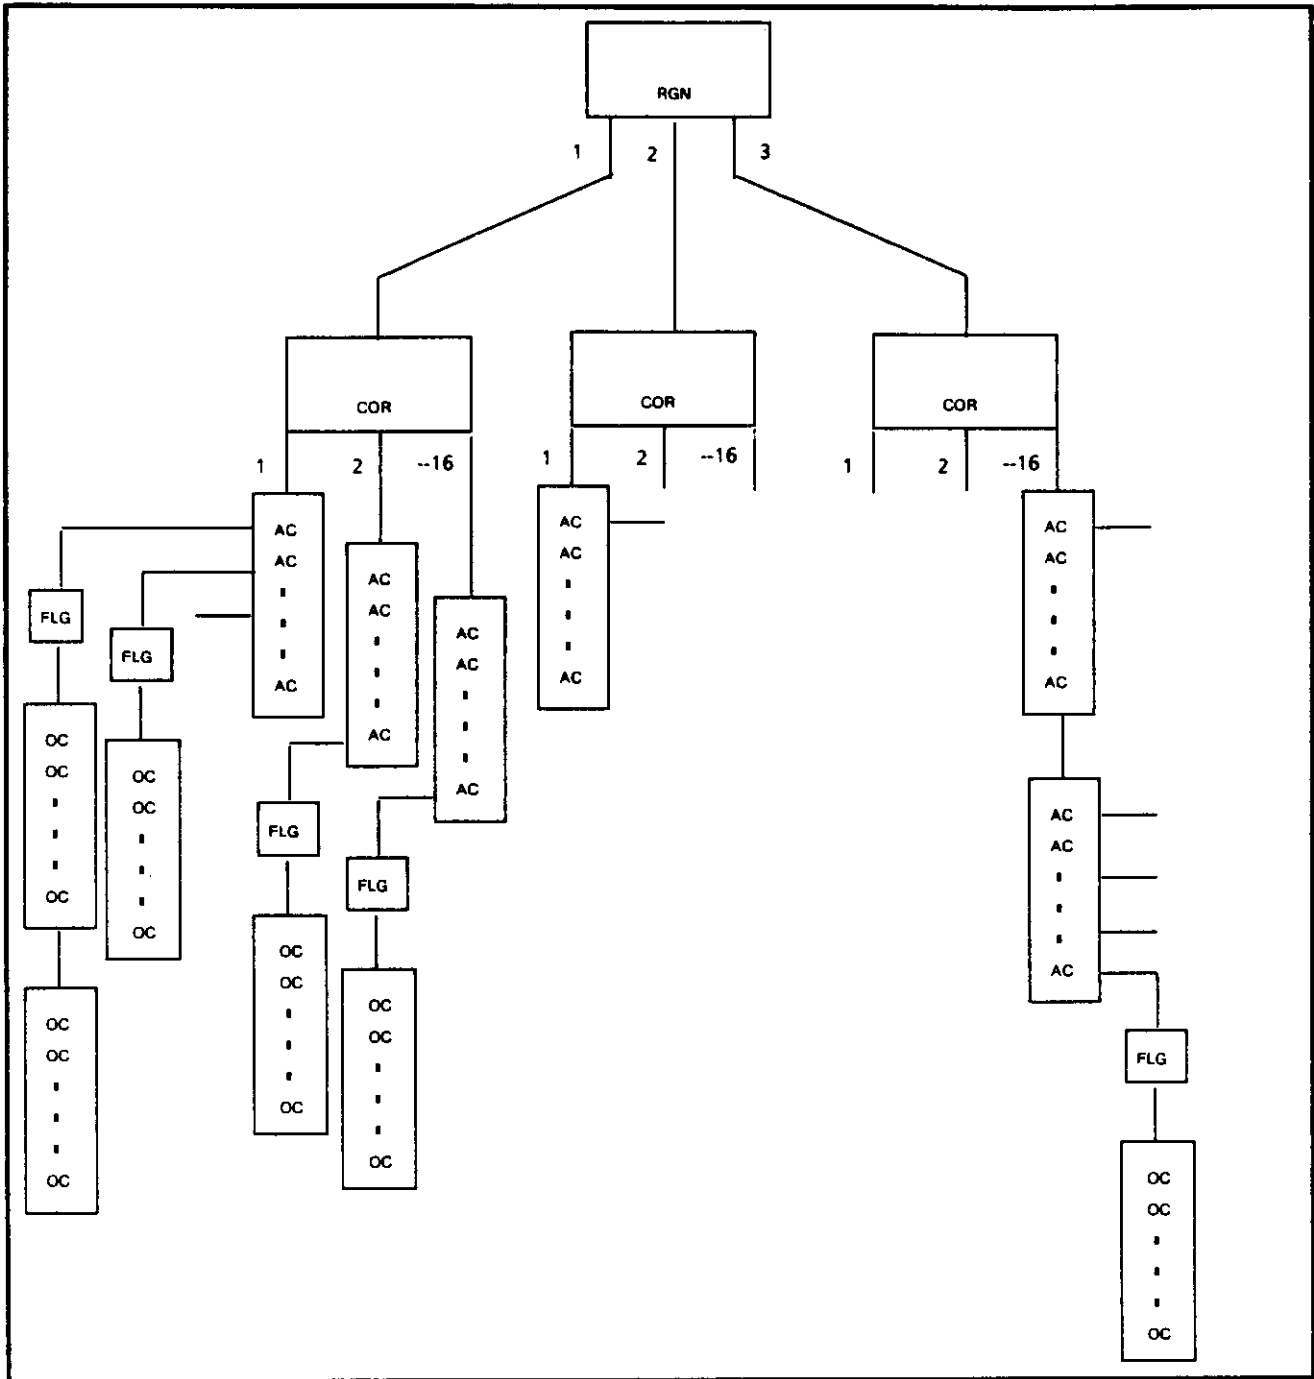

Figure 4.21 Area/Office Code Restriction Table Hierarchy.
4.65 The Area/Office Code Restriction Assignment (CMC 414) table is used to create a list of office codes within a specified area code. For each list, connections are allowed or denied for each class of restriction within a restriction group. Figure 4.21 shows the hierarchy of this table's organization. This CMC requires a HIGH level security code.